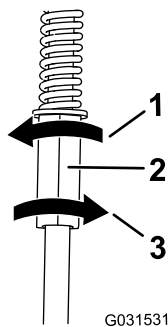

Figure 54
4. Rotate the left control rod in quarter-turn increments until the machine tracks straight (Figure 54).